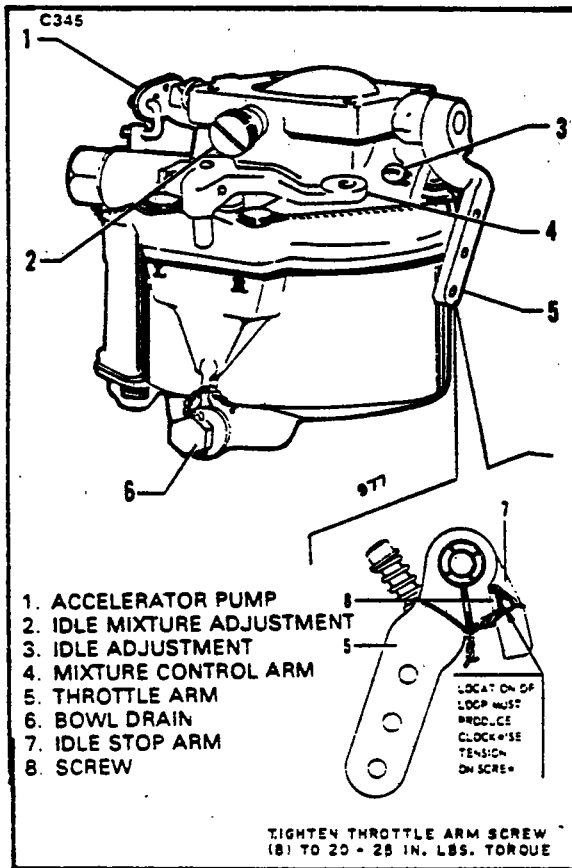

Figure 8-11. Carburetor
- d. Clean the fuel inlet screen. (Refer to Figure 8-11 or 8-12.)
- e. Using .032 inch diameter safety wire, first tie the wire to the idle stop lever and then continue as shown in Figures 8-11 and 8-12.
8-29. ADJUSTMENT OF IDLE MIXTURE. (Refer to Figures 8-11 and 8-12.)